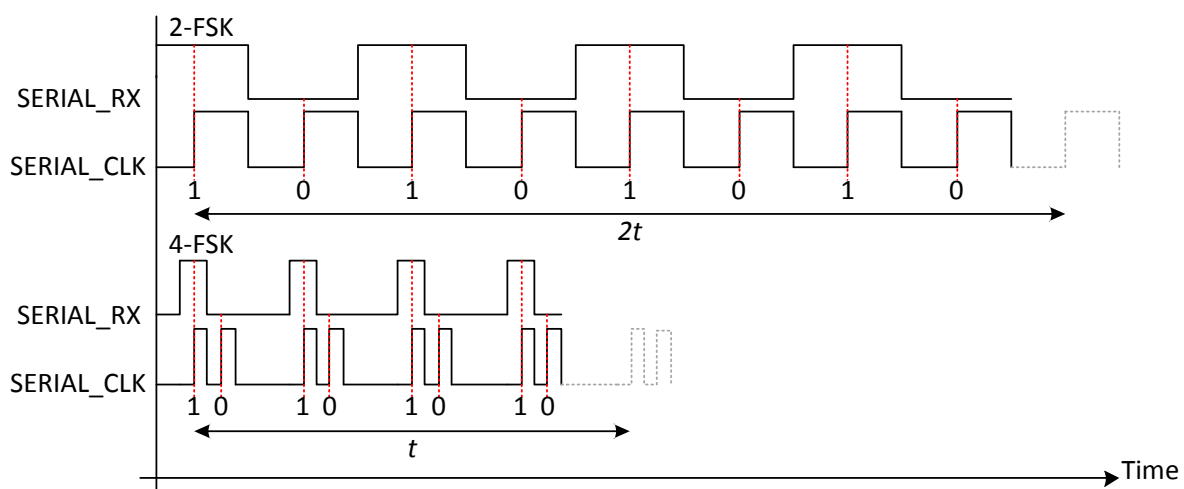

Figure 30: 2'ary vs. 4'ary Modulation Format in Serial Mode
Serial mode is only supported for 2'ary modulations. The exception in synchronous serial mode (RX) which also supports 4'ary modulation formats. Figure 30 shows `SERIAL_CLK` and `SERIAL_RX` for the data 0xAA for both 2-FSK and 4-FSK. The symbol rate is the same in both cases.